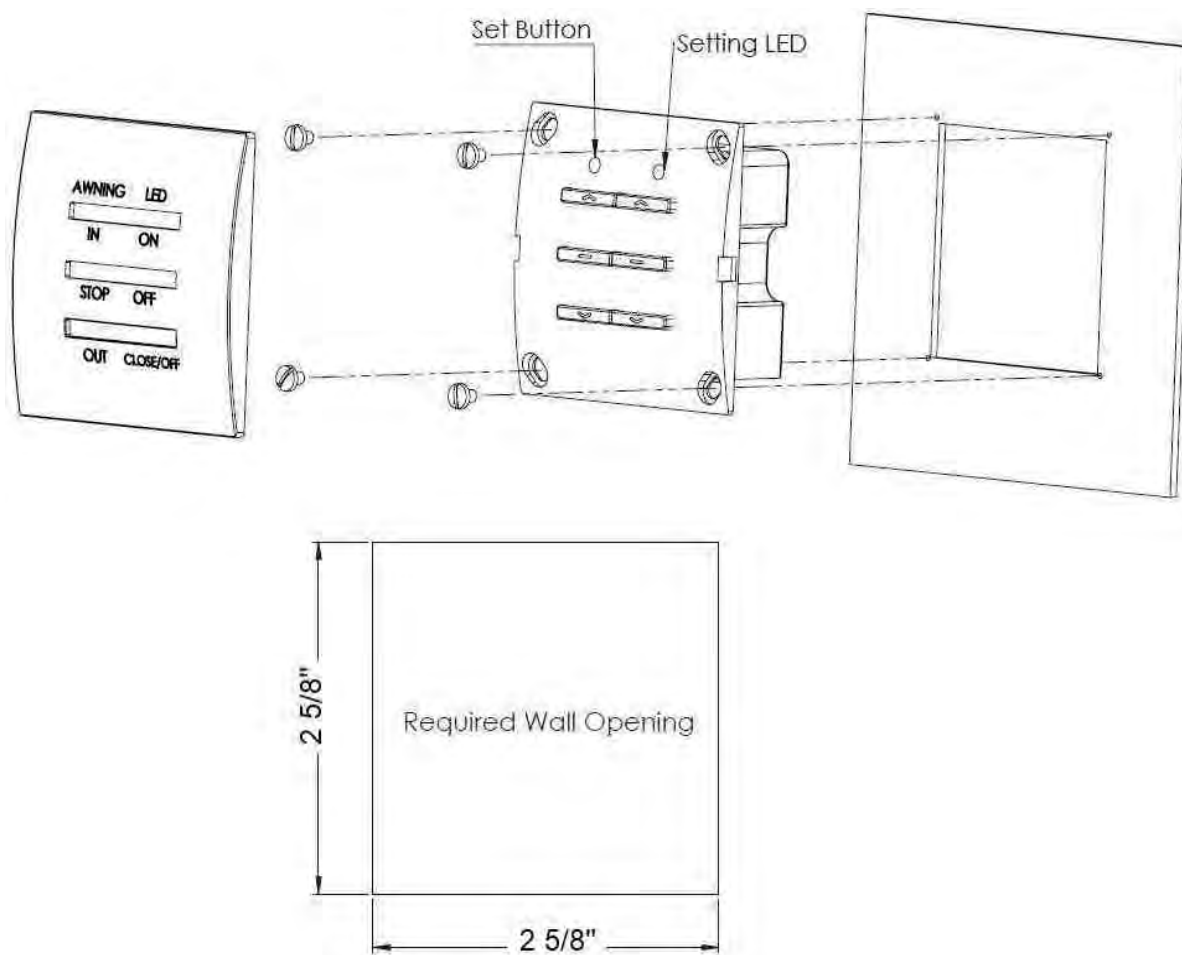

Fig. 2
1. Pull off the cover from the switch 98GC781(B), (W).
2. Press and hold the **set button** until you hear a beep from the switch, see Fig. 2 to locate the set button.